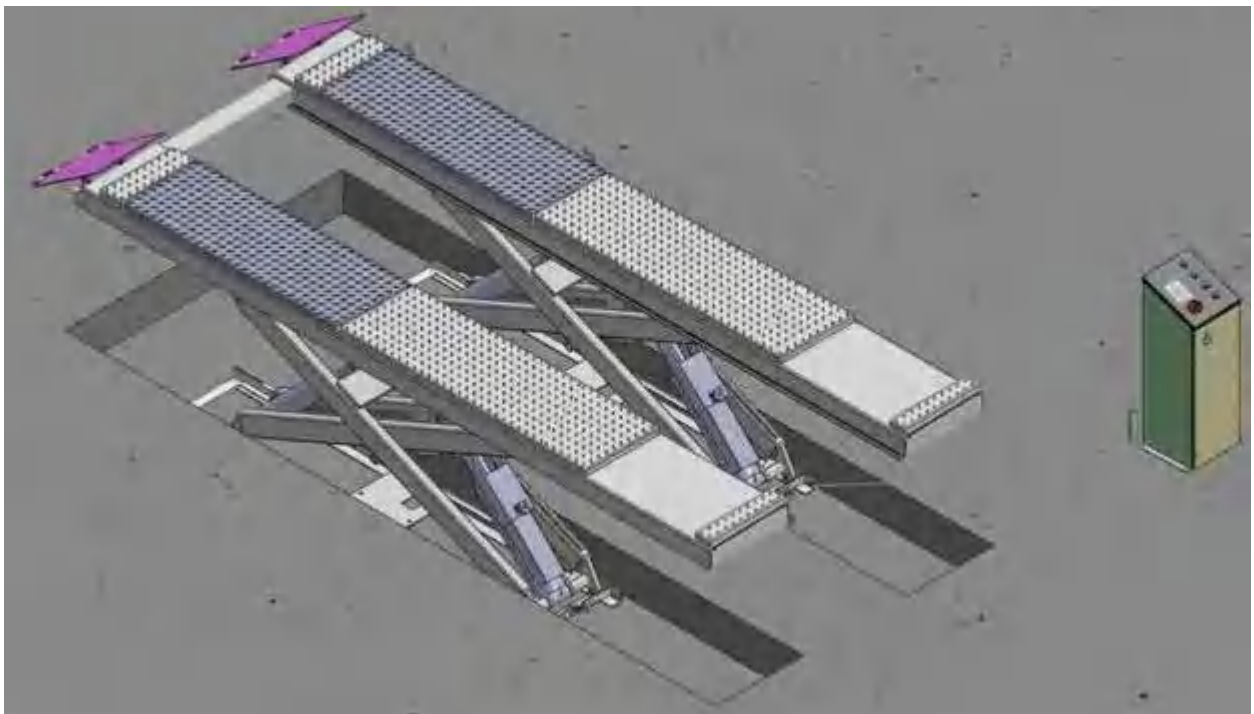

Fig. 9
2.3 Illustration of scissors lift **AX-12A** with flush mount installation (**Fig.9**).